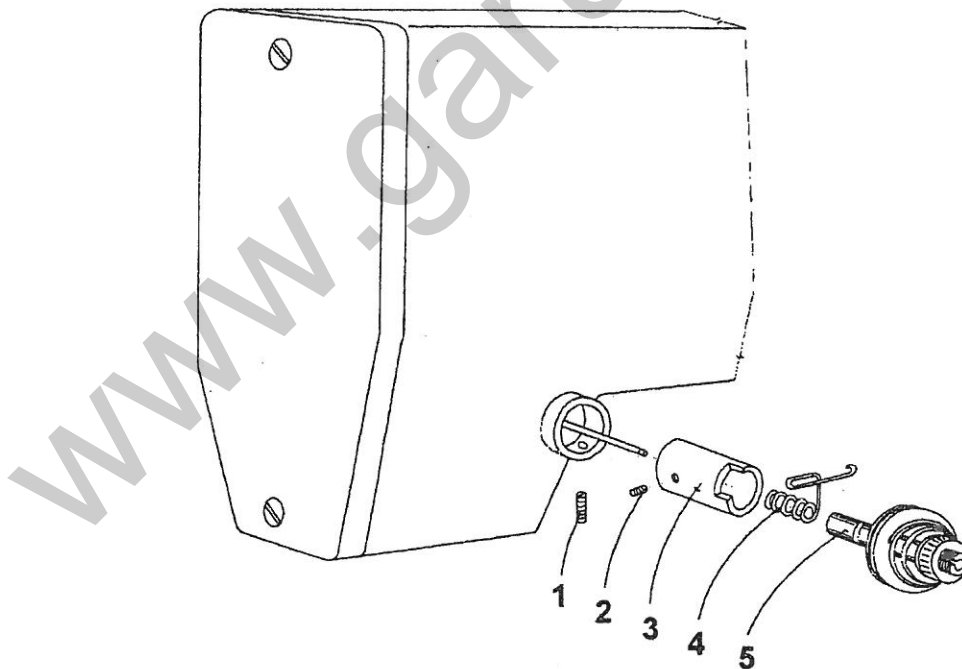

Fig. 14
**22. To adjust the operation of the adjusting spring (Fig. 14)**